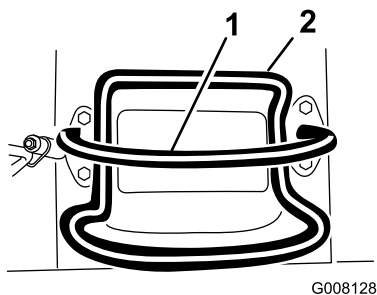
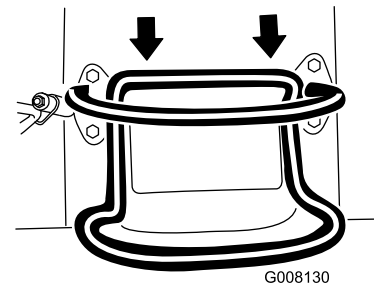

Figure 8
Figure 10
- To move rearward, move the traction control rearward (Figure 10). **When reversing, look behind for obstructions and keep your hands on the reference bar (Figure 8).**
- To stop, release the traction control (Figure 8).